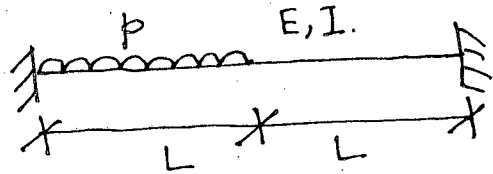
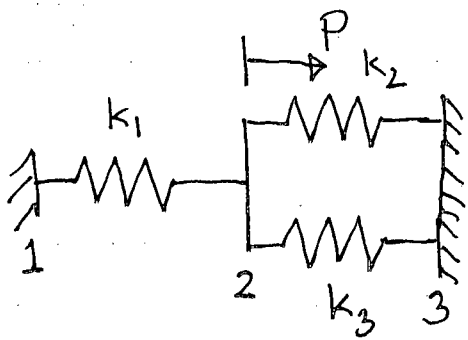

Fig. 4
Fig. 5
- (c) The beam shown in Fig. 4 is clamped at the two ends and acted upon by the distributed force p. Find the deflection and rotation at the center node. (9 1/3)
3. (a) What are the assumptions of linear static problems? (3)
- (b) For the spring system shown in Fig. 5, (12)